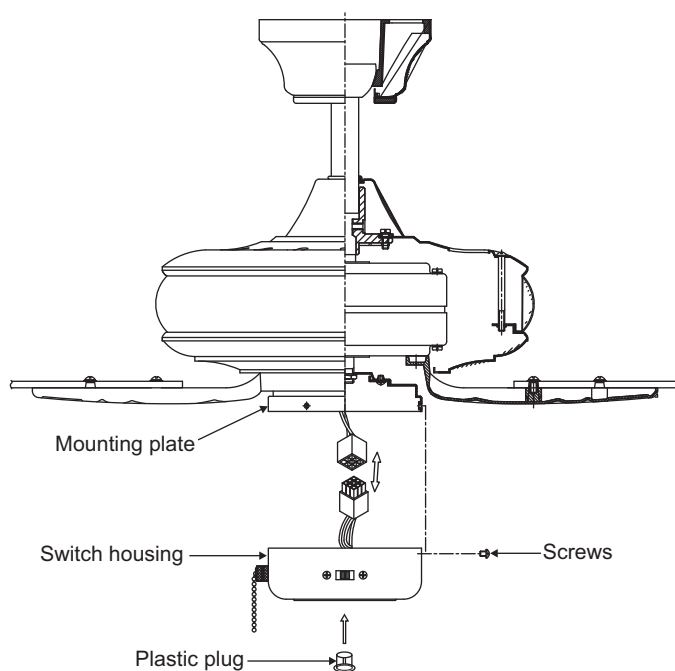

Figure 19
2. Attach the plastic plug to the switch housing. (Fig. 19)
3. Install the switch housing to the mounting plate with screws provided. (Fig. 19)